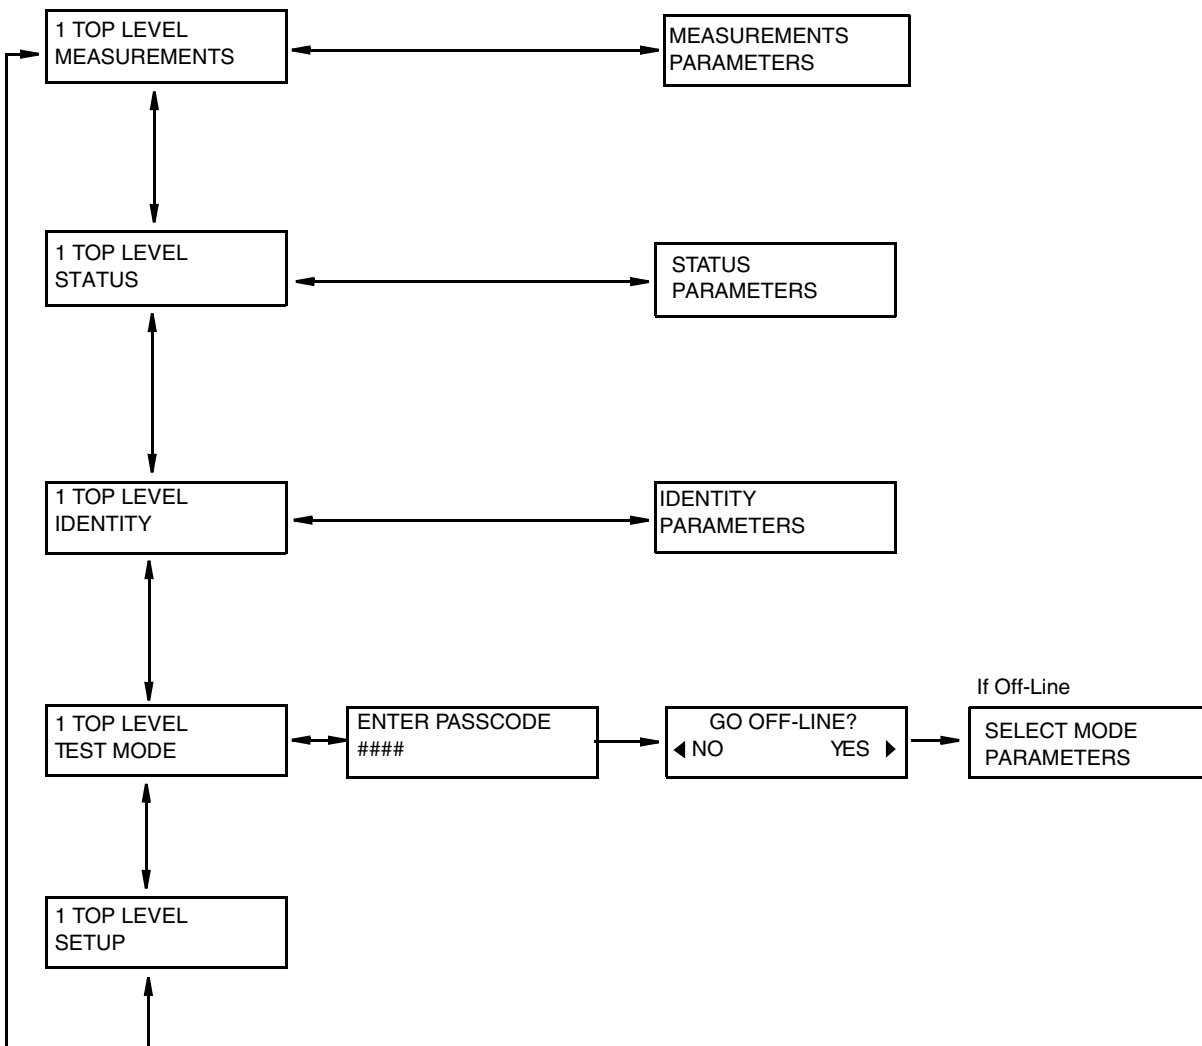

Figure 1. Entering Test Mode
1. From any of the normal display modes of the IMT25, use ← to enter the 1 TOP LEVEL menu. See Figure 1.